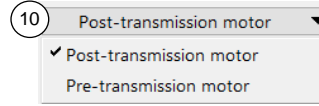

Figure 9. Drop-down list to specify the electric motor location of parallel hybrid.
There is an additional drop-down list ⑩ to specify the location of the electric motor either before the transmission (right after the engine and clutch) or after the transmission (Figure 9).